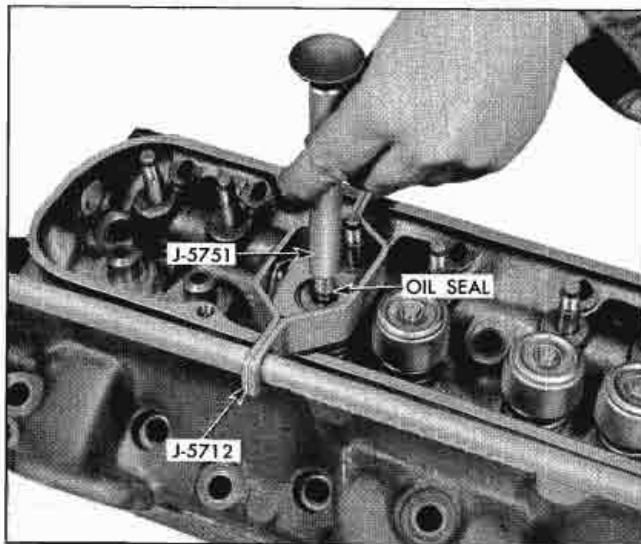

Fig. 6-39 Installing Valve Stem Seal with J-5751
1. Install valves, valve springs, valve stem shields, valve spring retainer cups, valve stem seals and retainer cup locks using suitable spring compressor. The valve stem seals must be installed in the second groove (from end of stem). Valve stem seal installer and tester J-5751 can be used to install this seal (Fig. 6-39).